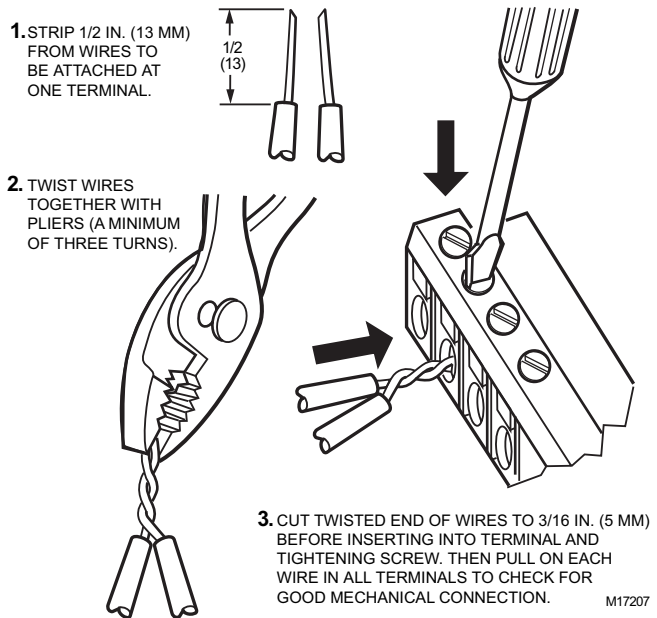

Fig. 13. Attaching two or more wires at terminal blocks.
NOTE: When attaching two or more wires to the same terminal, other than 14 AWG (2.0 sq mm), be sure to twist them together. Deviation from this rule can result in improper electrical contact. See Fig. 13.
3. If two or more wires are being inserted into one terminal location, twist the wires together a minimum of three turns before inserting them. See Fig. 13.
Fig. 15. Controller wiring diagram (model PVL6438NS shown) for typical VAV application, using the T7770C Wall Module and a C7770A Air Temperature Sensor. (For note 2, refer to Fig. 13.)